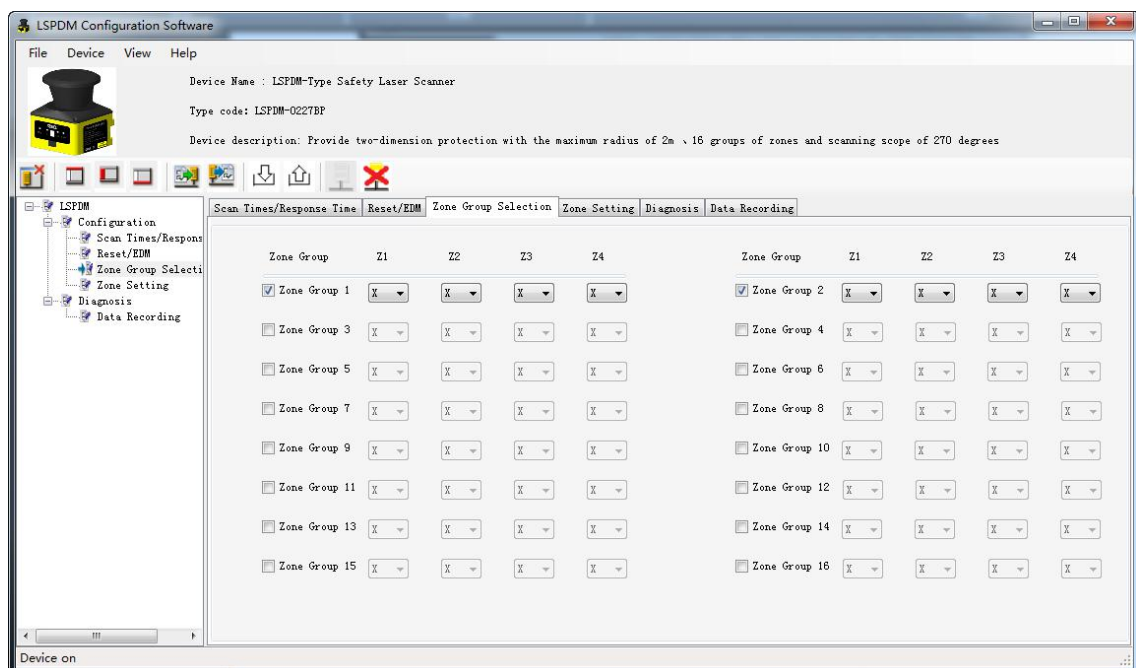

Fig.3.3.4 Activation of zone group 2
Step②: Check zone group 2, then zone group 2 is activated, the status of Z1, Z2, Z3 and Z4 become selectable, as shown in Fig.3.3.4.
Step③: The user sets different external input signal combinations for zone group 1 and zone group 2. As shown in Fig. 3.3.4, when Z1 input is high, Z2 input is low, Z3 input is high and Z4 input is low, zone group 1 is activated; when Z1 input is low, Z2 input is high, Z3 input is high and Z4 input is low, zone group 2 is activated.